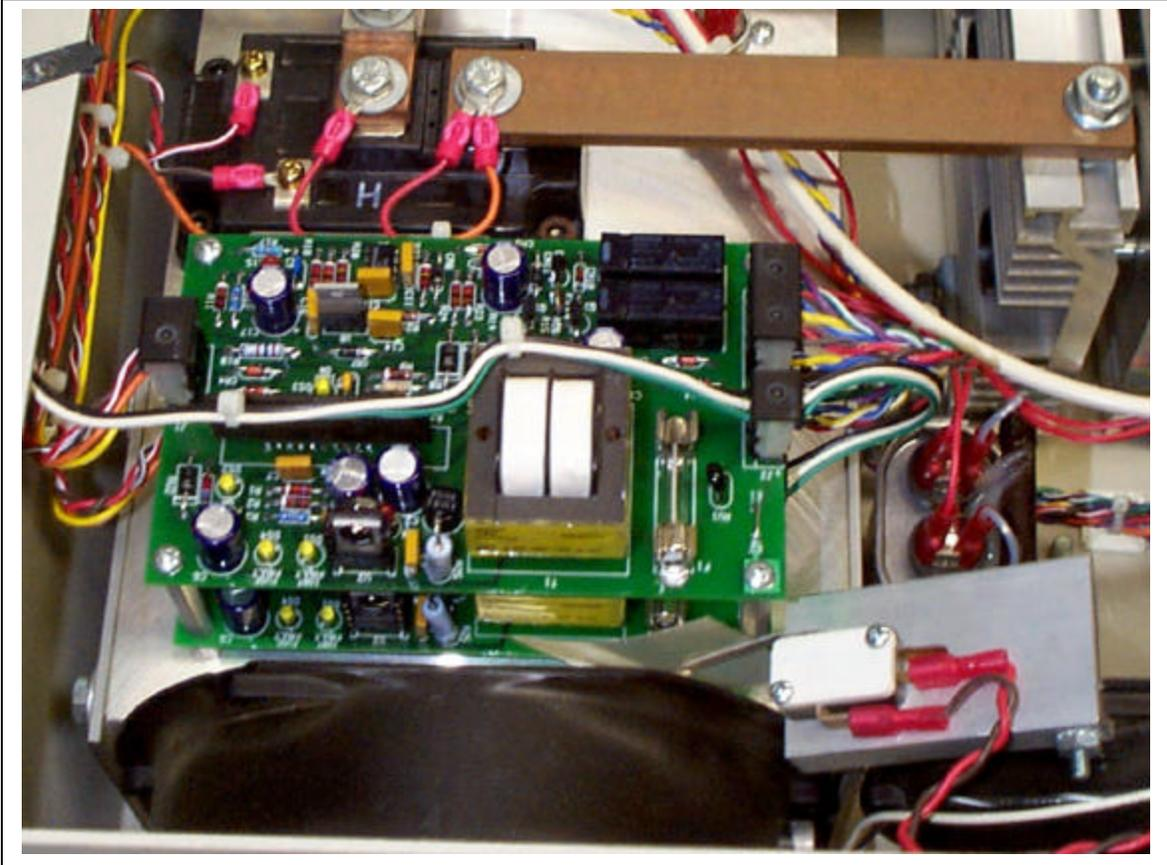

Figure 10
13. You can now replace both IGBT boards with the new IGBT boards. Make sure they have the yellow LED's on them. After you are done replacing them it should look like Figure 10.